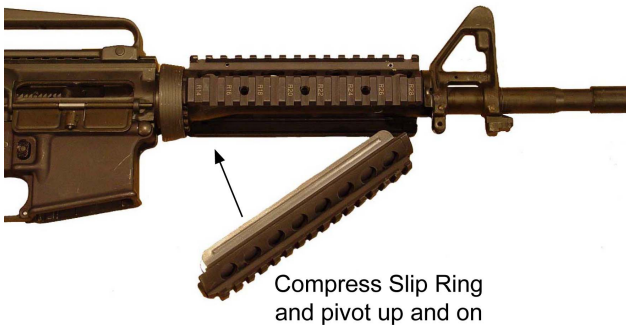

Figure 3-39. Lower RAS Assembly
- (1) Confirm the arrow on the inner surface points towards the muzzle of the weapon.
- (2) Install the lower RAS assembly by inserting the front edges into the forward handguard cap at the angle shown in Figure 3-39.
- (3) Compress the rear handguard slip ring while pivoting the lower RAS assembly up and into the final position. Refer to Figure 3-39.